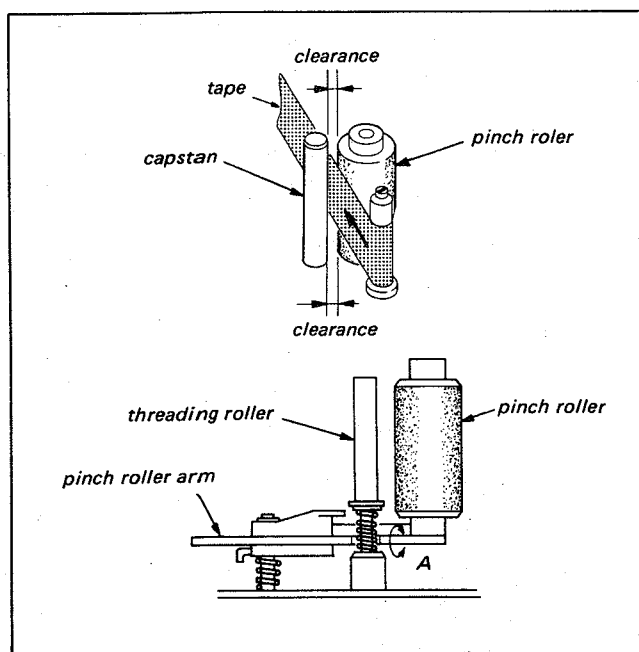

Fig. 6-6. Pinch roller slanting adj.
- Bend the "A" portion of the Pinch Roller Arm, shown in Fig. 6-6 until requirement of (1) "Tape Curl given by the Tape Guide Flange, during the period of Threading", and (2) "Tape Wrinkle given at around the Capstan", happening in the moment of just after the Pinch Roller pressing against the Capstan.
- (v) Check to see that the Pinch Roller Retainer shown in Fig. 6-6 does not move in the "C" direction nor in the "D" direction during the course of foregoing step (vi), as observed by eye, visually. If the Pinch Roller Retainer should move, adjust by bending the Pinch Lever's A portion.